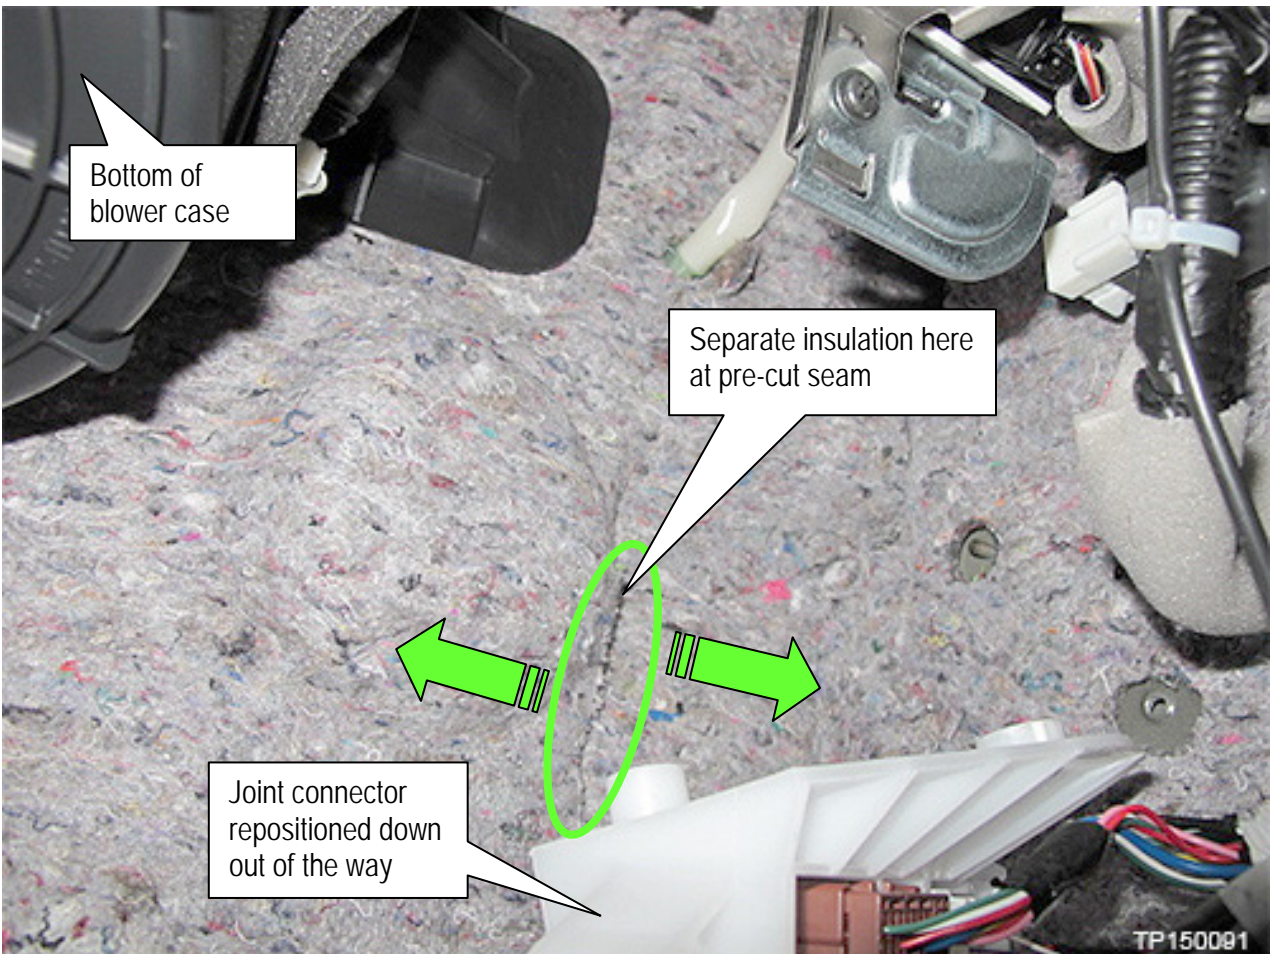

Figure 7
- Reposition the joint connector down and to the left (Figure 7).
- 11 Gently pull back/separate insulation at the pre-cut seam and reposition it to either side as shown by the arrows in Figure 7.